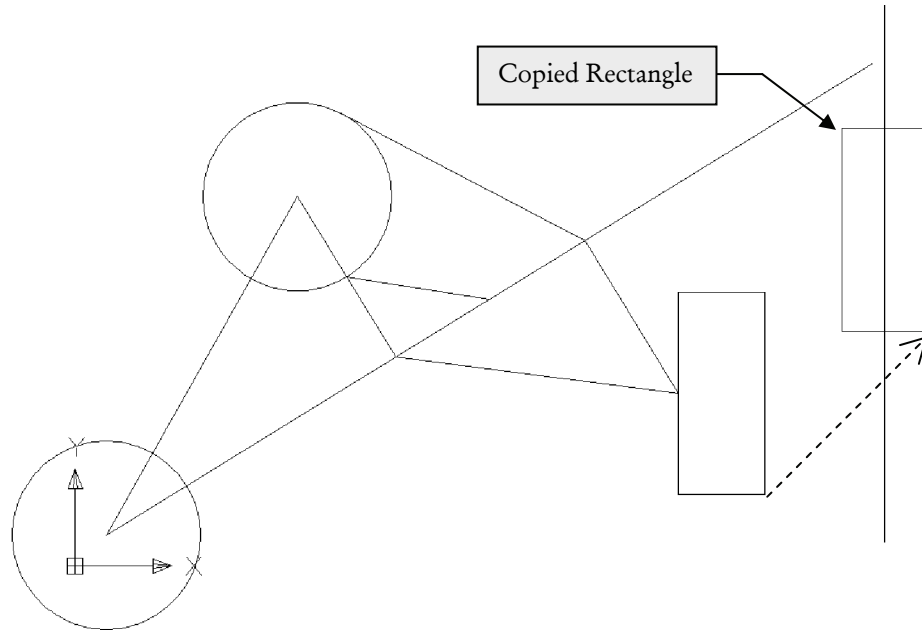

FIGURE 2-3.5 Copied rectangle. Dashed line represents the distance and angle of displacement.
14. *The following will be entered via the on-screen Dynamic Input:* Type **18**; press **Tab** then type **45** and press **Enter**. (See Figure 2-3.5 and on-screen prompts below.) Finally, press **Enter** to finish the command.
The **Move** command works exactly like the **Copy** command except, of course, you move the entities rather than copy them. Given the similarity to the previous command covered, the **Move** command will not be covered here. You are encouraged to try it yourself. Use the **Undo** command to get back to the drawing shown in Figure 2-3.5 before proceeding if you decide to try the **Move** command.